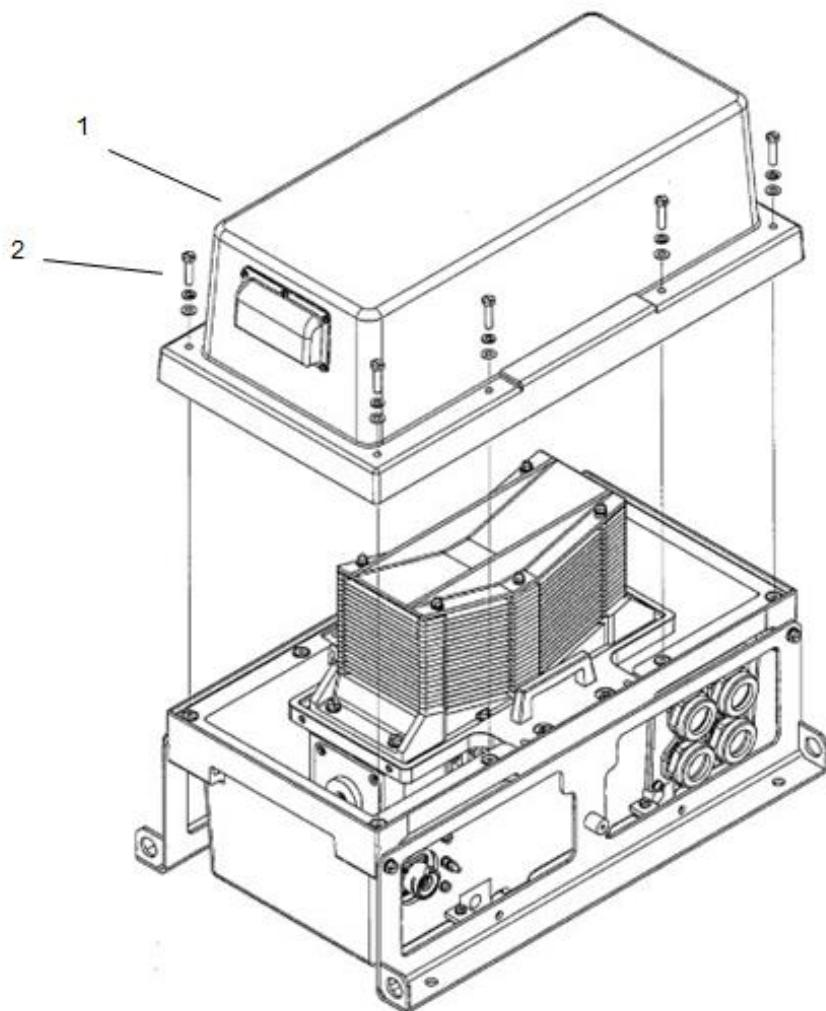

Figure 4-15: HSCB Cover Removal
Remove the cover (1) as shown in Figure 4-15 by removing the eight M8 bolts (2). Lift the cover from the bottom flange. Do not lift the cover from the vent louvers. Clean the dirt and debris from the cover and from inside the unit. Check for evidence of water entry. Check the gasket attached to the cover.
1. Remove the cover (1) as shown in Figure 4-15 by removing the eight M8 bolts (2). Lift the cover from the bottom flange. Do not lift the cover from the vent louvers.
8. Install the eight M8 bolts that secure the HSCB cover with a 13 mm socket as seen in Figure 4-15. Tighten to 14 Nm (10.3 ft-lbs.).